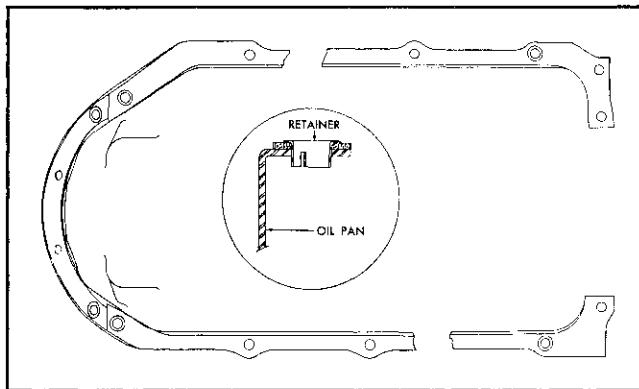

Fig. 6-100 Oil Pan Gasket Retainers
1. Install new gasket on oil pan. (Fig. 6-100, 6-101, 6-102).
1. Install new gasket on oil pan using gasket retainers (Figs. 6-100 and 101).